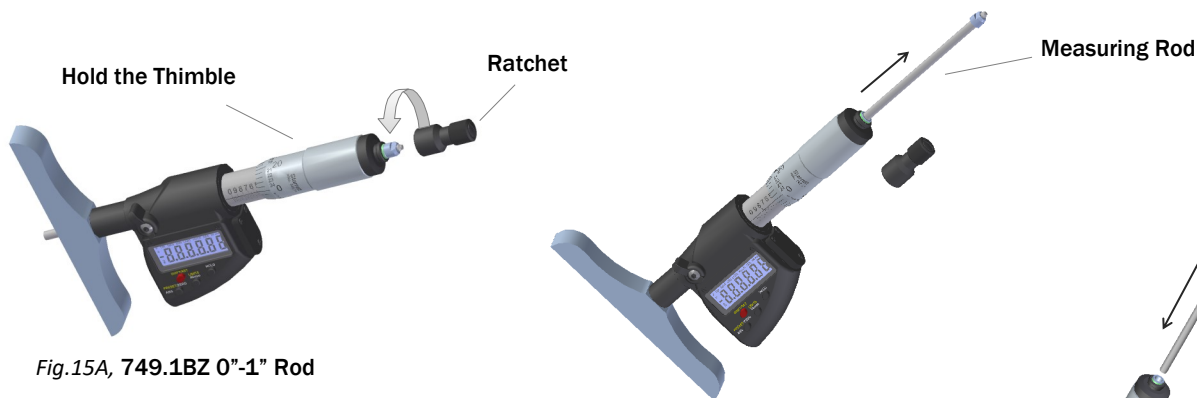

Fig.15A, 749.1BZ 0"-1" Rod
1. Fig.15A, Hold the thimble from moving and then unscrew the ratchet (friction thimble) counter clockwise to remove it.